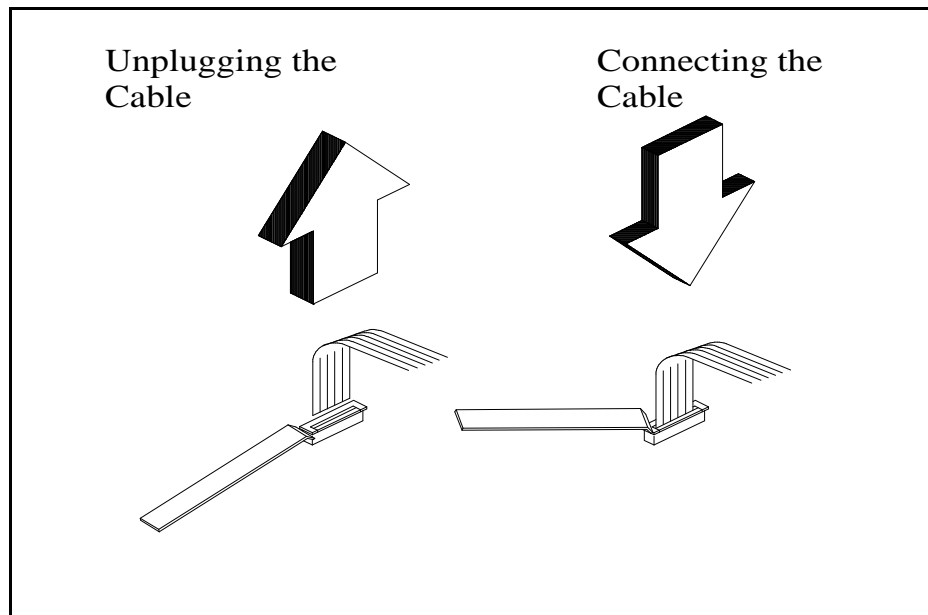

Figure 6-4 Removing/Installing Cables with ZIF Connectors
- ◆ Locking-type connectors - use a plastic stick to unlock and lock these type of connectors as shown in Figure 6-4.